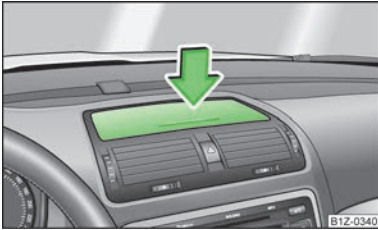

Fig. 71
► Press in the middle of the storage compartment » Fig. 71 - the lid folds open.